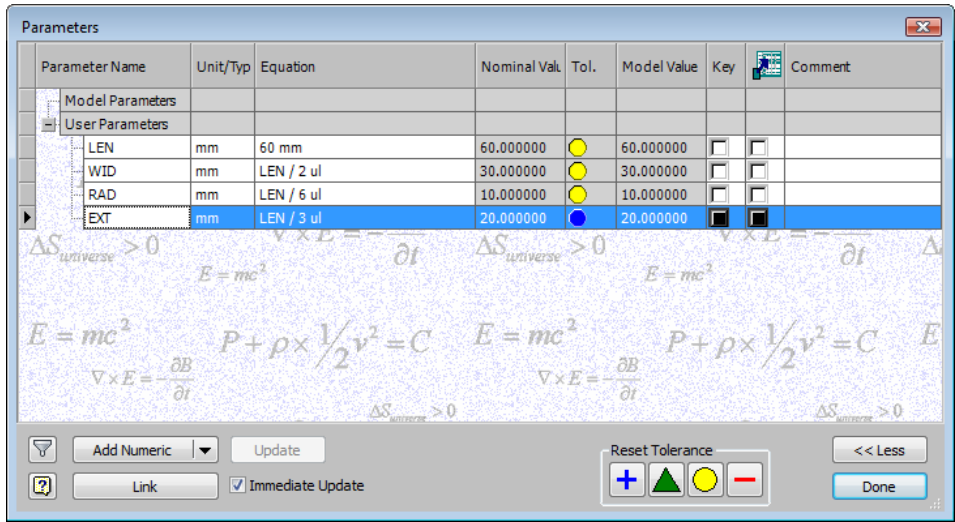

Figure 18-30 The **Parameters** dialog box after adding the user-defined parameters
- Invoke the **Parameters** tool and create required parameters, refer to Figure 18-30.
7. Similarly, create the remaining parameters. The **Parameters** dialog box after creating all the parameters is shown in Figure 18-30. Choose **Done** to exit the **Parameters** dialog box.